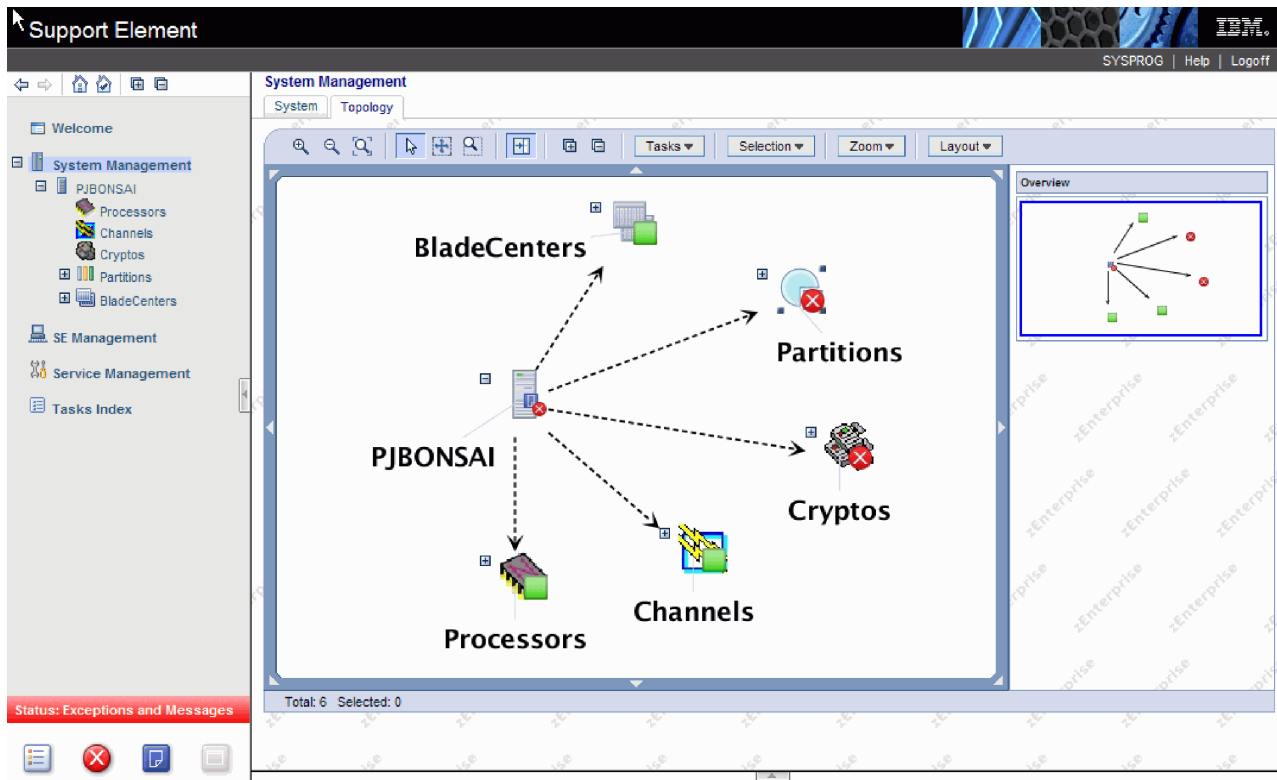

Figure 23. Topology view features
The information that is displayed from the **Topology** tab is a graphical relationship-based view of the objects. It is composed of the Toolbar, Framed image, and Support areas, some of which are identified in Figure 23 on page 32.
- Toggle Support Area Visibility icon - toggles the visibility of the support area, which displays the image Overview (see Figure 23 on page 32).